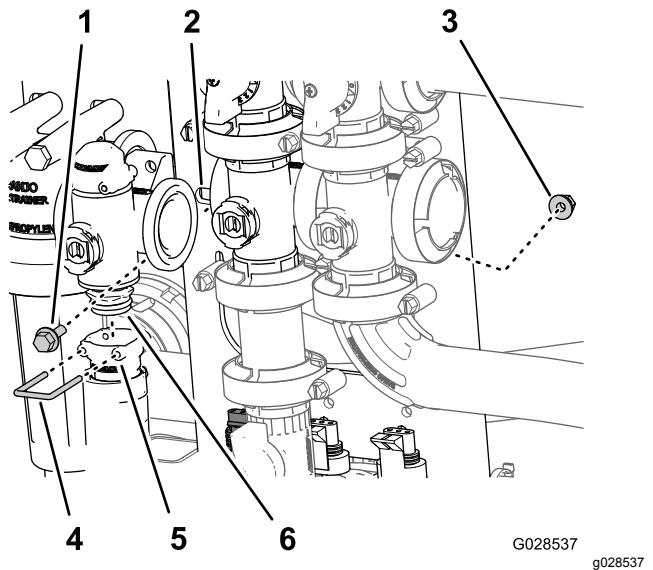

Figure 89
2. Remove the retainer that secure the outlet fitting to the manifold for the rate control valve (Figure 89).
3. Remove the 2 flanged-head bolts and 2 flanged locknuts that secure the rate control valve to the valve mount and remove the valve manifold from the machine (Figure 89).